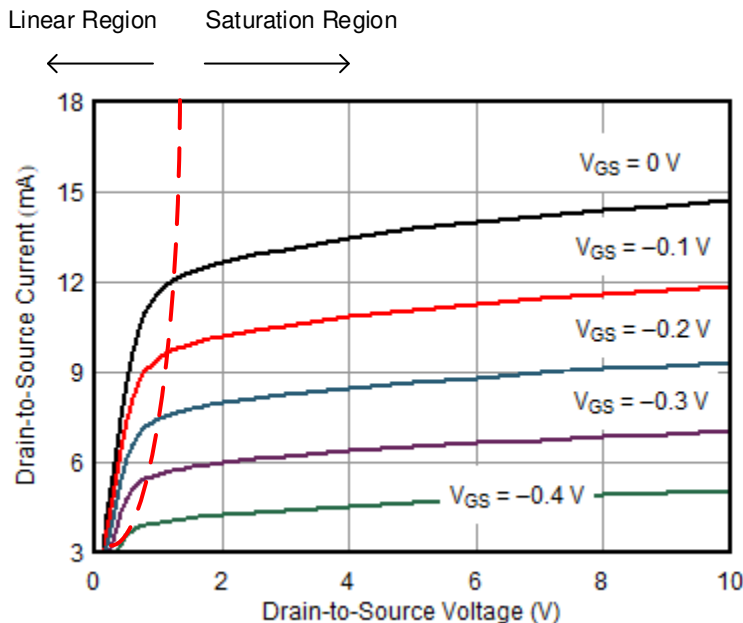

Figure 8-1. V_{DS} vs I_{DS}
- For $V_{GS} > V_{GSC}$: Two modes of operation can exist depending on V_{DS} . When V_{DS} is less than the linear (saturation) region threshold (see Figure 8-1), the device operates in the linear region, meaning that the device behaves as a resistor connected from drain-to-source with minimal variation from any changes in V_{GS} . When V_{DS} is greater than the linear (saturation) region threshold, I_{DS} has a strong dependance on V_{GS} , where the relationship is described by the parameter g_m .